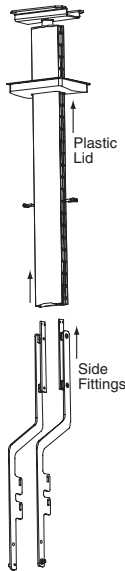

Figure 1
- ① Use the ceiling plate to mark out four holes for the ceiling bolts. Drill $\frac{3}{8}$ " holes (see diagram on back page for dimensions).
- ② If ceiling plate will be visible, attach plastic lid provided to hide plate (see Fig. 1).
- ③ Slide in the side fittings (see Fig. 1).